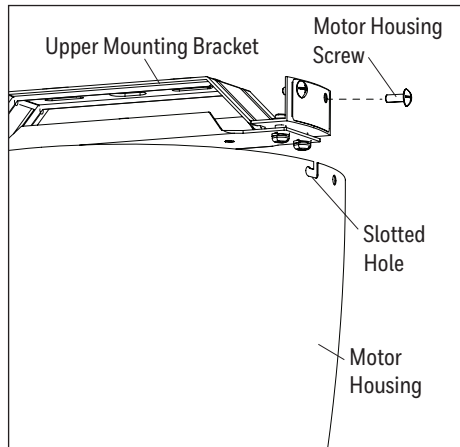

Figure 4.2
2. Temporarily lift the motor housing to the upper mounting bracket to determine which two motor housing screws in the sides of the upper mounting bracket align with the slotted holes in the top edge of the motor housing. Partially loosen the two motor housing screws that align with the slotted holes. Remove the other two motor housing screws from opposite sides of the upper mounting bracket. Slide the motor housing over the motor, aligning the slotted holes in the motor housing with the loosened motor housing screws in the upper mounting bracket. Twist the motor housing to lock. Then re-insert the two previously removed motor housing screws and securely tighten all screws (Figure 4.2).